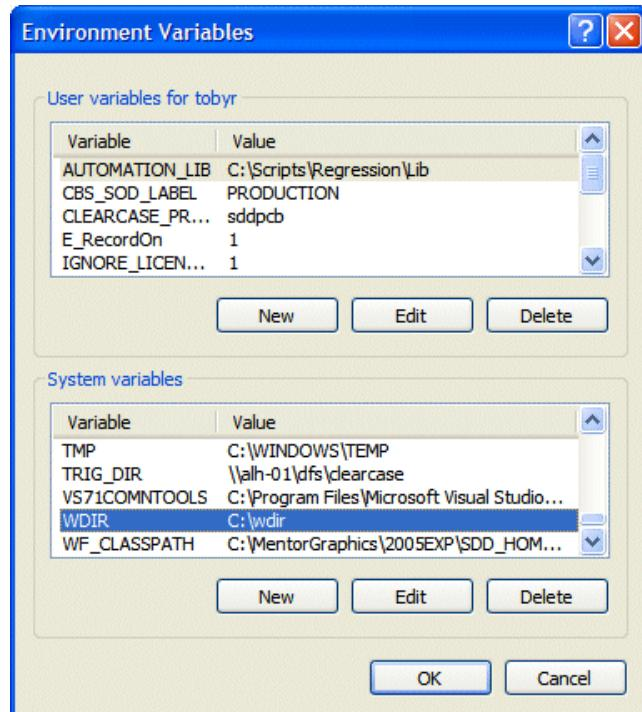
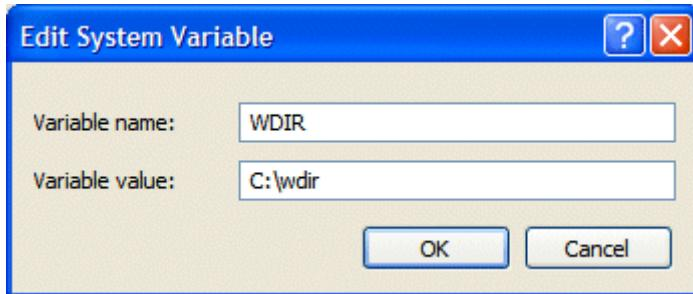
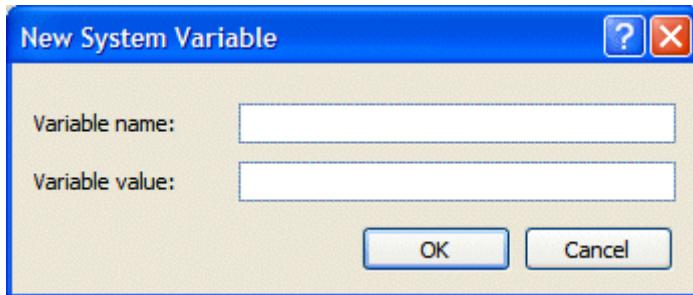

Figure 9-4. The Environment Variables dialog.
Figure 9-5. The Edit System Variable dialog.
Figure 9-7. The New System Variable dialog.
- 3) Select the **Advanced tab** and click the **Environment Variables** button to access the **Environment Variables** dialog as illustrated in Figure 9-4.
- 4) If an application's installation has already configured a *WDIR* variable for you, it will be located in the **System Variables** scrolling list as illustrated in Figure 9-4. If you want to add a new folder – such as our *C:\Temp* folder – to an existing *WDIR* variable, then select (highlight) the *WDIR* item in the scrolling list and click the **Edit** button to access the **Edit System Variable** dialog as illustrated in Figure 9-5.
- 6) Before we proceed, we should note that if there had not been an existing *WDIR* variable as illustrated in Figure 9-4, then we would have clicked the **New** button on the **Environment Variables** dialog, which would have returned the New System Variable dialog (Figure 9-7).